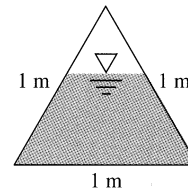

Fig. P10.56
**10.56** A riveted-steel triangular duct flows partly full as in Fig. P10.56. If the critical depth is 50 cm, compute (a) the critical flow rate; and (b) the critical slope.
**10.57** For the triangular duct of Fig. P10.56, if the critical flow rate is 1.0 m3/s, compute (a) the critical depth; and (b) the critical slope.